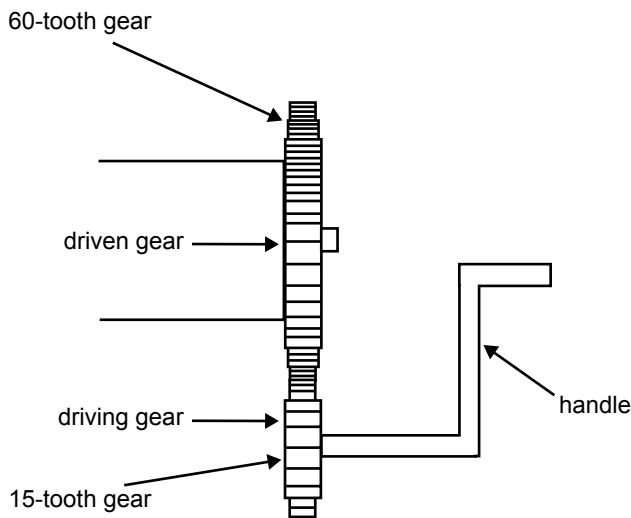

Figure 2
- c. The handle which turns the pool blanket roll drum is connected to a 15-tooth gear. The gear drives a 60-tooth gear mounted on the blanket roll drum (Figure 2). Calculate the gear ratio involved in the gear set. (Refer to formula on page 19.)
The gear set illustrated in Figure 2, when operated, allows the handle to turn in the opposite direction to the blanket roll drum.